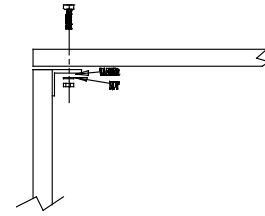

Figure 1:
- a. The longest cross beam typically sits fully on the corner support column. (See figure 1)